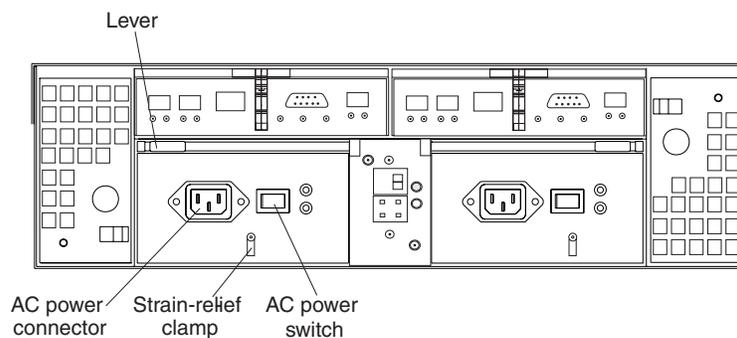

Figure 94. Lever for power supply removal
1. Turn off the ac power switch. See Figure 94.